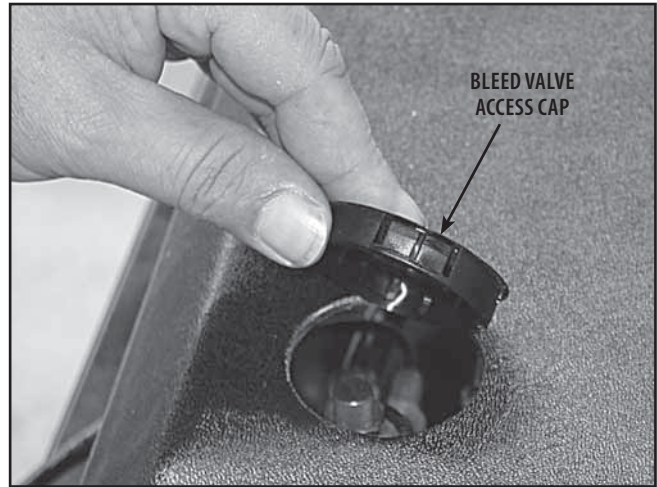

FIGURE 5.19
1. With table in the Up position remove the Bleed Valve Access Cap from the Hydraulic System Cover. See Figure 5.19.